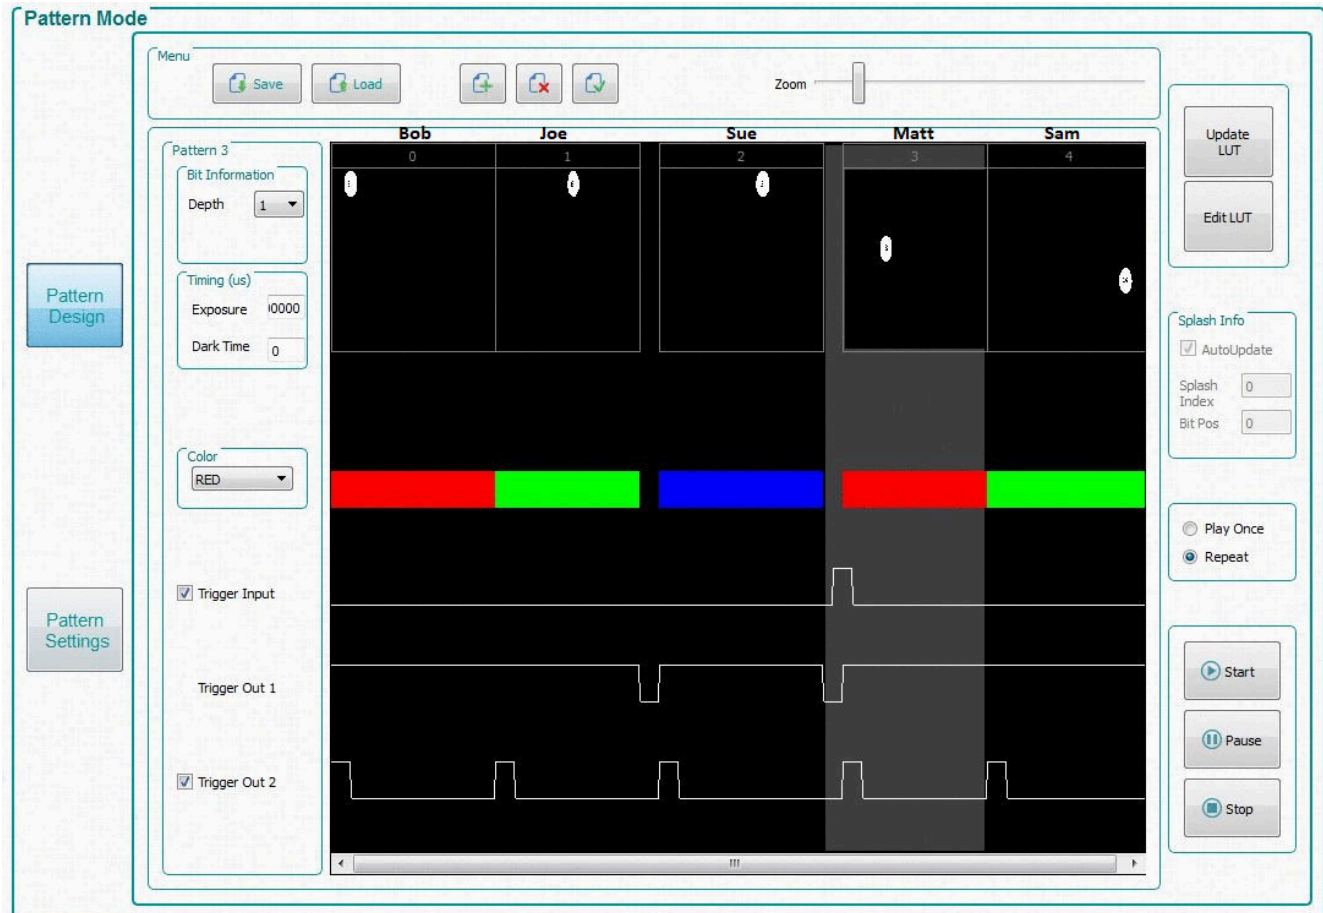
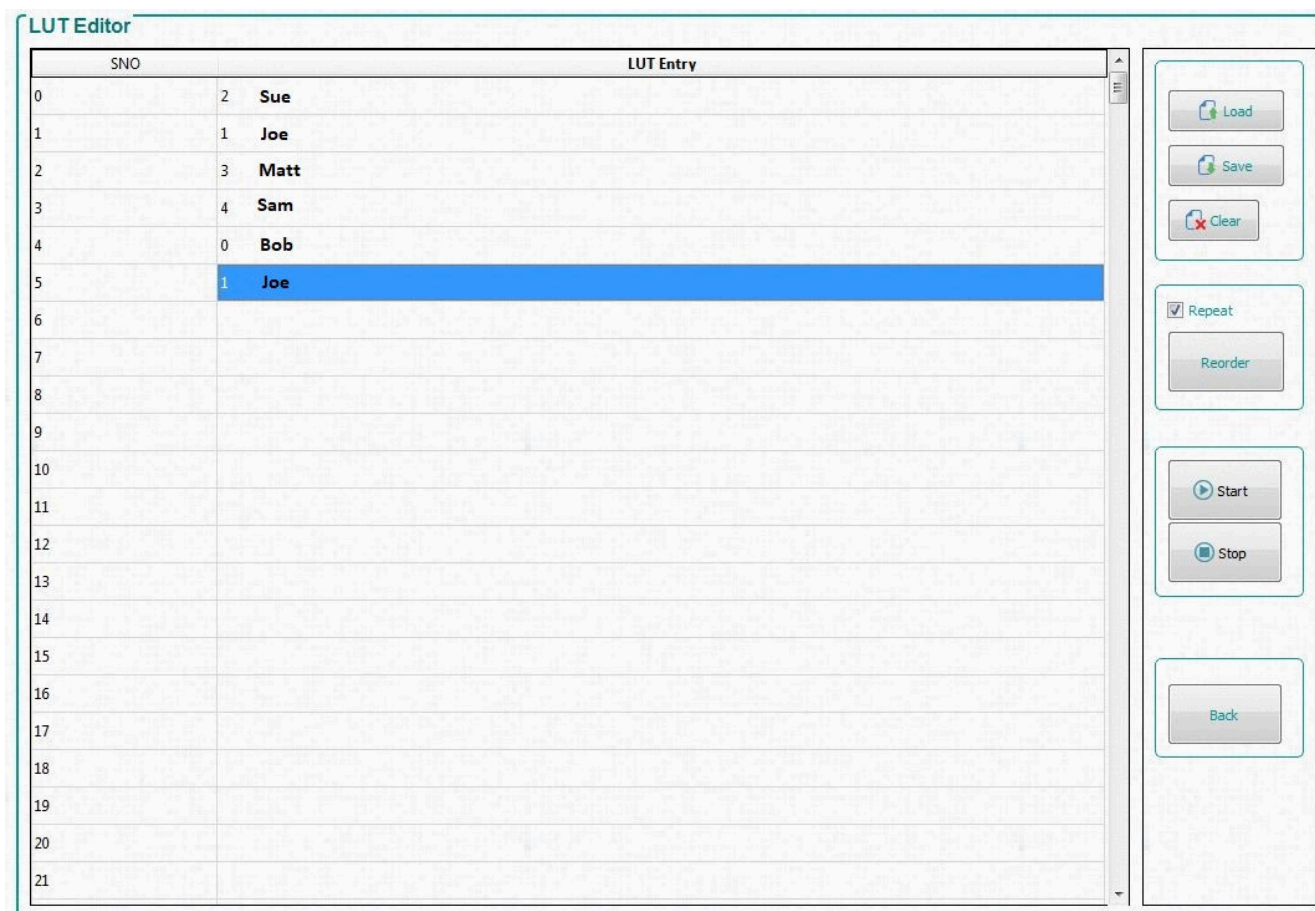
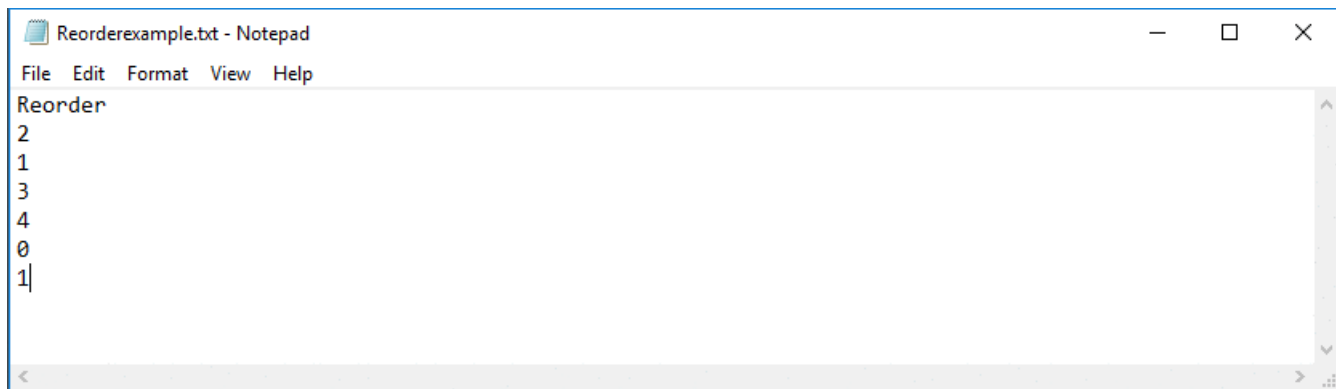

Figure 3-11. Pattern Design Example
Figure 3-12. LUT Editor Panel
Figure 3-13. Reorder Example
The *LUT Editor* panel is shown in Figure 3-12 where the column labeled “SNO” (i.e. Sequence Number) represents the pattern display slot numbers according to the order set (after clicking *Update LUT*) in the *Pattern Design* tab as shown in Figure 3-11. The user can then reorder those patterns by either manually entering the pattern number of their choice into a row in the “LUT entry” column or loading a text file beginning with the word “Reorder” followed by the desired numerical pattern slots as shown in Figure 3-13.
1. By following the steps similar to Section 3.6.2, load five patterns in *Pattern On-The-Fly-Mode* as shown in Figure 3-11.
7. Click the *Edit LUT* button to open the *LUT Editor* panel as shown in Figure 3-12. This panel initially opens with an empty "LUT Entry" column.
8. To reorder the patterns, enter a "2" in "LUT Entry" row 1, and subsequently a "1", "3", "4", "0", and "1" as shown in Figure 3-12.
13. Browse to wherever the text file was saved, and open the file in a text editor program as shown in Figure 3-13.
When using the GUI interface, each pattern carries several items of information corresponding to the slot that it was inserted in the original LUT order. Therefore, when reordering a pattern to a different slot in the LUT, it retains its original assigned bit information, timing (exposure and dark time), LED color, and trigger information and NOT the information that is located in its reassigned slot in the LUT. For example, if pattern 3 contains a trigger input to begin the user's execution in Figure 3-11 and is reordered to slot 2 as shown in Figure 3-12, the trigger input is now located at slot 3 in the LUT rather than slot 0.
It may be helpful to understand the *Edit LUT* feature by giving names to the patterns, as shown above the patterns in Figure 3-11, and treating them as the batting order in a baseball game making it easier to picture the distinction between the slot order numbers in the "SNO" column (the new batting order) and the patterns that are inserted into the "LUT Entry" column (the batters). For example, Bob retains his batting statistics independent of his batting position (i.e. bit information, timing, color, trigger), so if he originally bats first (slot 0 in Figure 3-11) but is moved to fifth in the new batting order (reorder LUT entry 4 in Figure 3-12) he retains all of his properties. The only difference is that now he does not bat (i.e. is not displayed) until after the four batters (patterns) preceding him (Sue, Joe, Matt, and Sam). Notice also that in our example Joe bats twice in the new batting order (SNO 2 and 5). There is only one Joe, who bats twice in the new batting order. In the same way, a pattern in the original pattern list can be displayed in many positions in the reordered display LUT, without adding or removing any patterns in DLPC900 memory. Therefore in terms of the system memory, it is only changed when using the *Update LUT* feature but never when using the *Edit LUT* (Reorder) feature in the Figure 3-11.